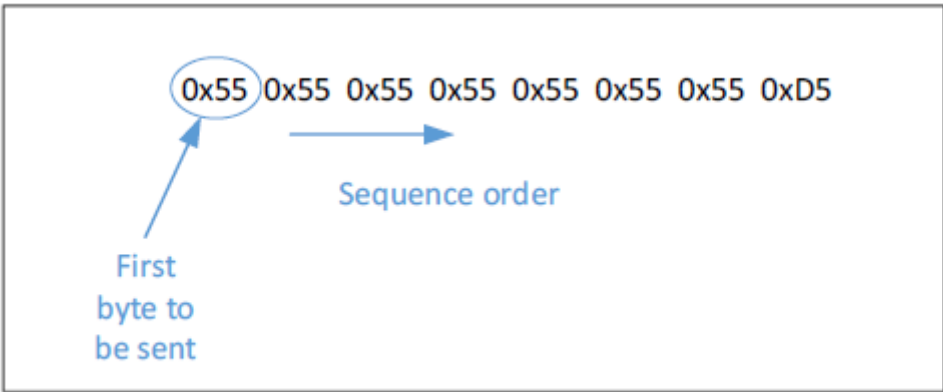

Figure 3: Valid Preamble
- 1- Valid Preamble: A valid preamble is 8 bytes with the values and order of transmission/reception shown in in Figure 3. After a valid preamble is detected, preamble_valid output must be asserted for the duration of one clock cycle.